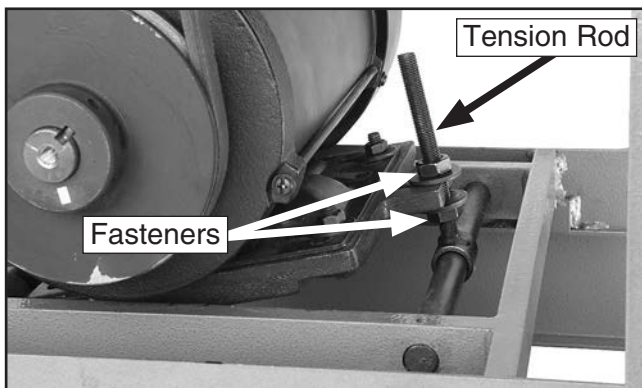

Figure 56. Fasteners needed to be loosened for V-belt replacement.
3. Using a 17mm wrench, loosen the fasteners on the tension rod shown in **Figure 56**.